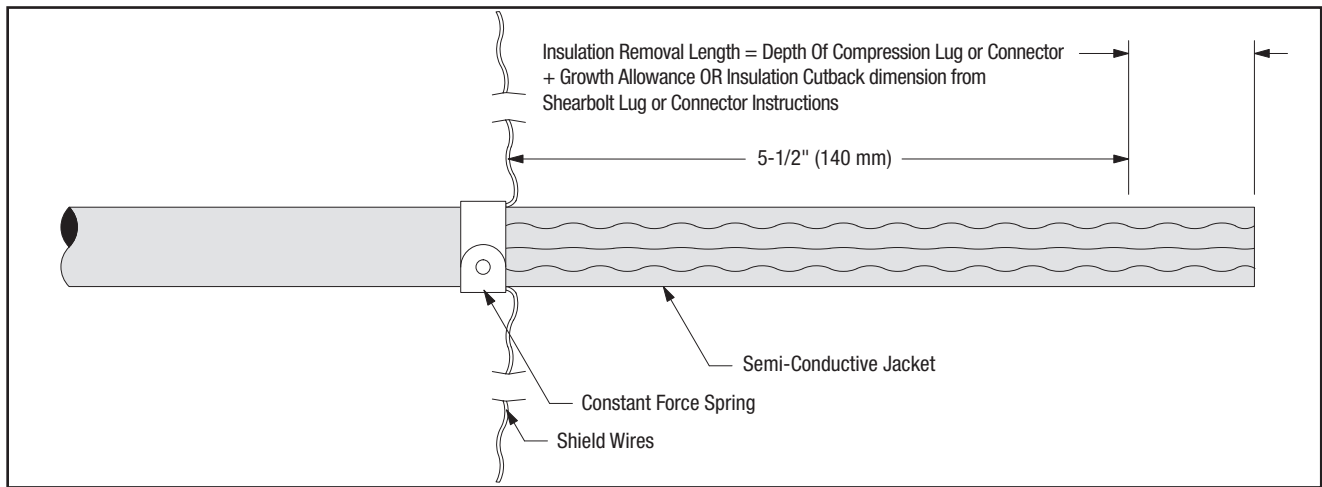

Figure 16
- 12.2 Prepare cable using dimensions shown in Figures 16, 17 and 18. **BE SURE TO ALLOW FOR DEPTH OF TERMINAL LUG OR CONNECTOR.**
- 12.4 Install constant force spring as shown in Figure 16. Pull shield wires through semi-conductive jacket to leading edge of constant force spring (Figure 16).